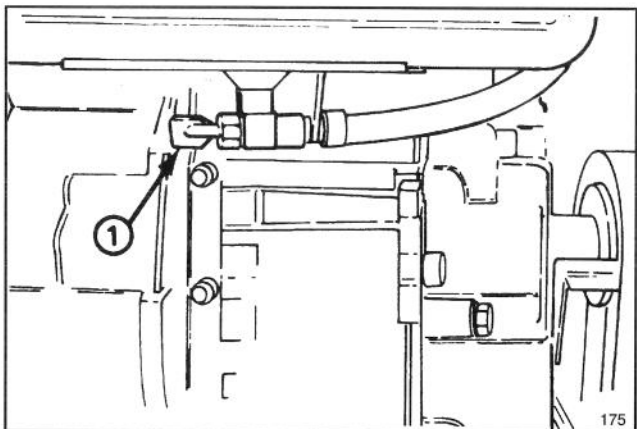

Figure 15
Fuel Shut-Off Valve (Fig. 15)—Valve is located under fuel tank. Close valve to stop fuel flow from fuel tank and open valve to allow fuel to flow to the carburetor. Close valve when snowthrower is not used.
3. Open fuel shut-off valve below fuel tank (Fig. 15).